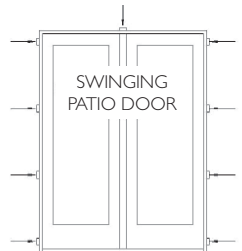

FIG. 14
- L) Start with a shim at each corner no more than 1" from the jamb corner. Add additional shims spaced evenly from the center of the unit make sure shims are spaced no more than 16" apart. Note to use flat shims or pairs of triangle shims to ensure the jamb does not twist. (Fig. 14)
- M) Additional shims are required at each lock point, head shootbolt and hinge location for all operating doors. (Fig. 14)